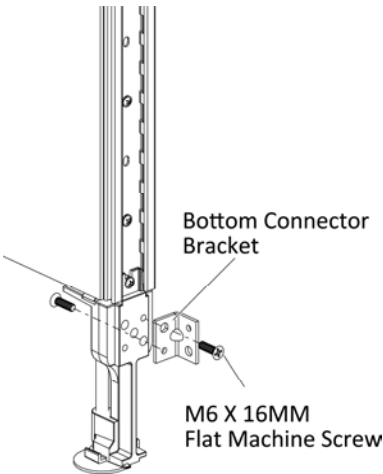

Figure 5
- Position bottom corner bracket to the third panel and securely fasten it into panel leg with two M6 X 16MM Flat Machine Screws, (Figure 5).